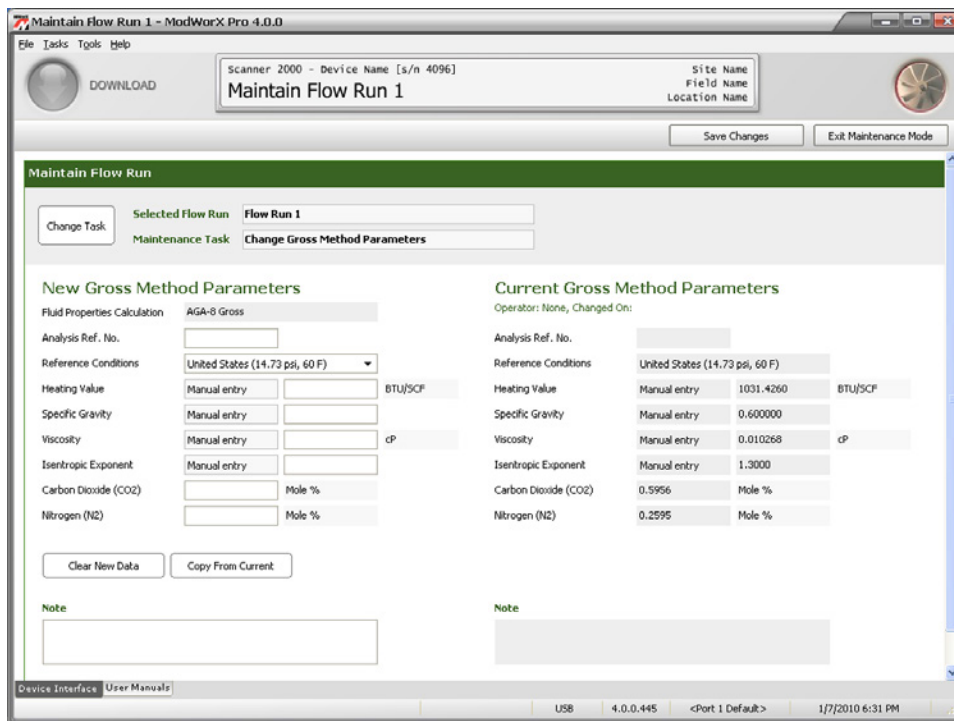

Figure 10.11
- b. Click **OK** to save the settings and return to the Maintain Flow Run screen (Figure 10.11, page 152).